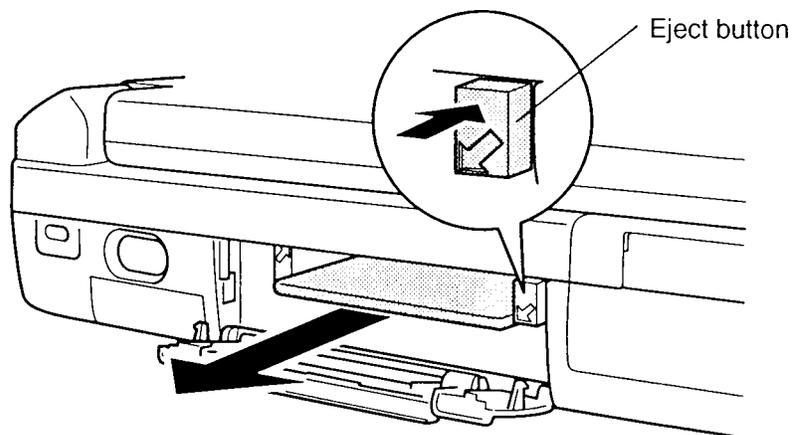

Figure 4-8 Removing the PCMCIA card
4. Press the **eject button** to pop the card out slightly, then remove it (figure 4-8).